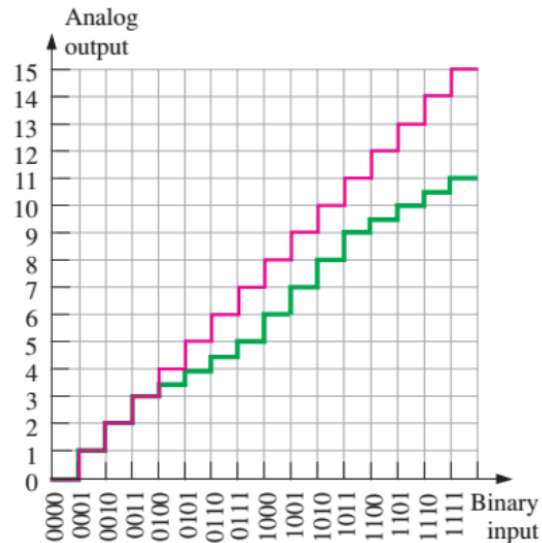

Figure 3.35
- Figure 3.35 illustrates *differential nonlinearity* in which the step amplitude is less than it should be for certain input codes.